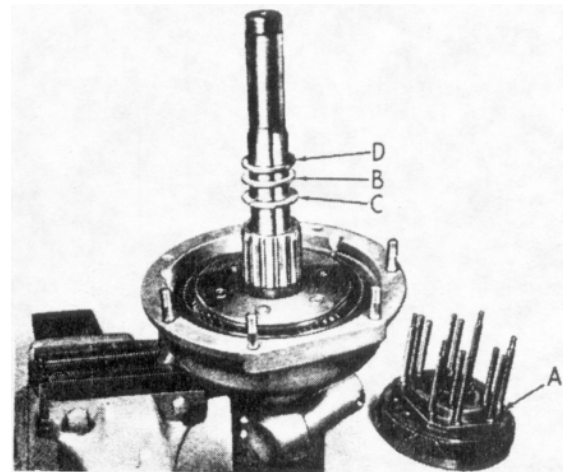

Fig. 25 Selecting a suitable Adjustment Washer to give the Sun Wheel End Float.
The next thing is to select a suitable adjustment washer to allow the correct amount of end float to the sun wheel. The steel thrust washer (B) (Fig. 25) which is fitted between the bronze thrust washer (C) (Fig. 25) and the central bush (4) (Fig. 4) in the main casing, serves also to make this adjustment and is supplied in various thicknesses to suit the assembly. Gauging the end float of the sun wheel can be done easily with ordinary feeler gauges as follows :—
Place the bronze washer (C) (Fig. 25) and the steel washer (B) (Fig. 25) in position at the front of the sun wheel. The cone clutch (A) (Fig. 25) should be left out while the thrust washer is being selected. Place the extra steel adjustment washer (D) of known thickness on top of the steel washer (B), and
As soon as the end float of the sun wheel is correct, re-assembly can quickly be completed. Separate the two casings, remove the extra thrust washer, fit the cone clutch assembly (A) (Fig. 25) in place, offer up the main casing to the tail casing, fit the nuts and spring washers on to the studs and tighten up evenly. The bridge pieces for the operating pistons should now be fixed in place and the clutch thrust springs placed in position on the pegs. Ensure that the eight springs are correctly located as shown in Fig. 34, that is, the long springs on the outside and the short springs nearer the centre. The dummy shaft should now be withdrawn and the unit is ready for fixing to the gearbox. If not required for immediate fixing to the gearbox the adapter plate or wooden cover should be fitted before putting the unit into store.